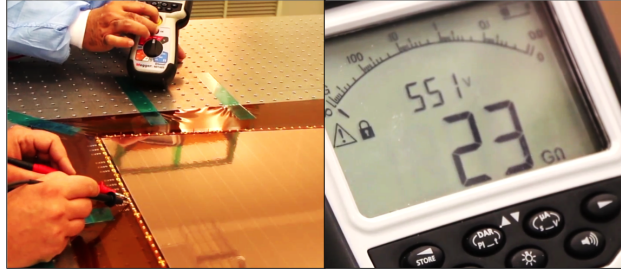

Figure 62: Electrical test of GEM1.
Step 13: Apply 550 V between the two electrodes during few minutes and check that the resistance reaches at least 20 G Ω after few seconds (Fig. 62). After the test is done, discharge the GEM foil.